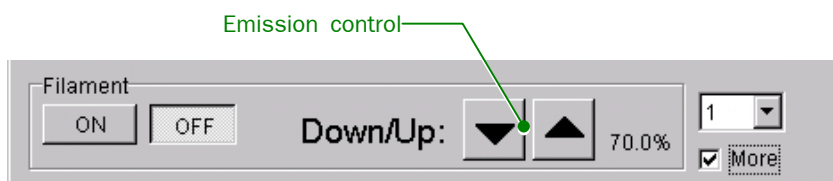

Fig. 5.13 Generating high voltage
- c. Wait until the Beam Current in the **High Voltage Control window** becomes stable; then click on Filament **OFF** in the **High Voltage Control window** (☞ Fig. 5.13) or press the Beam button (L1-①) to turn off the beam.
- d. Increase the accelerating voltage by 20 kV and click on Filament **ON** in the **High Voltage Control window** (☞ Fig. 5.13).